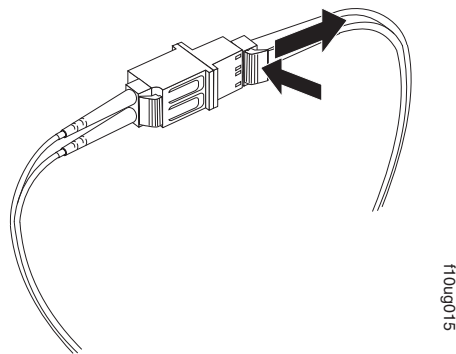

Figure 46. Removing the LC-LC fibre-channel cable from an LC-SC fibre-channel cable adapter
2. Carefully pull on the connector to remove it. Make sure you grasp the connector and not the cable when removing the LC-LC cable from the LC-SC cable adapter as shown in Figure 46.